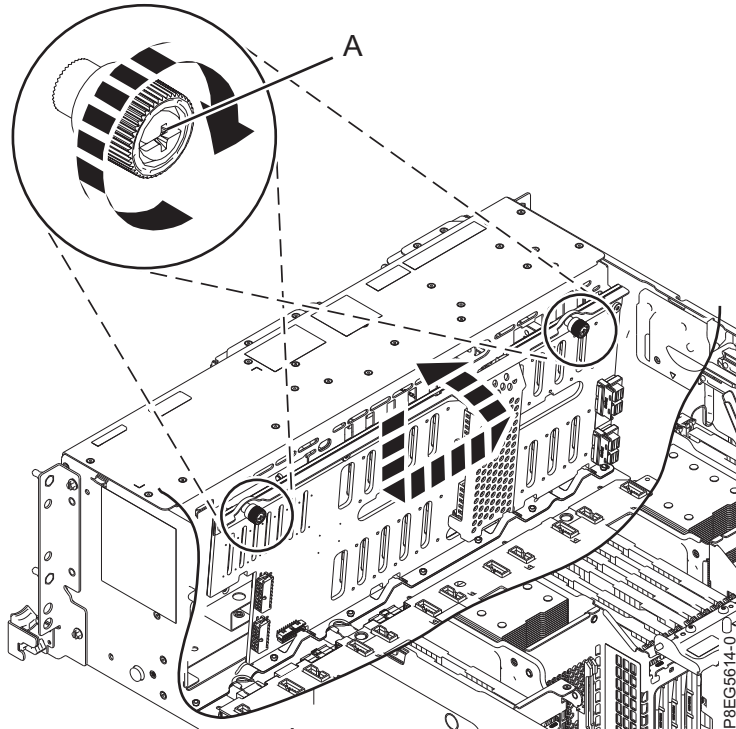

Figure 102. Replacing the disk drive backplane
32. Using the ledge at the top of the disk drive backplane and facing towards the front of the system, replace the backplane. Tilt it towards the rear and lower it down into the chassis. Align the backplane cutouts with the tabs in the chassis to insert it into the system. Slide the backplane to the side as is shown in Figure 102 on page 101.
33. Carefully tighten the captive thumbscrews (A) until each one is secured to the system's chassis.